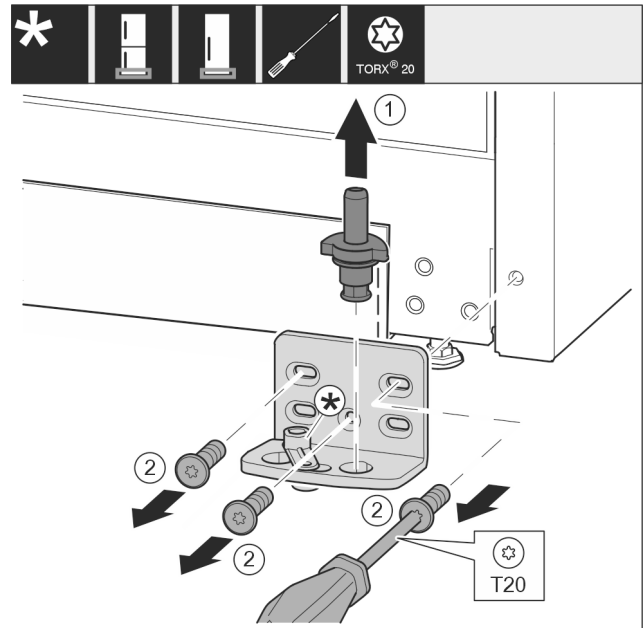

Fig. 13
- ▶ Pull the bearing bolt Fig. 13 (1) out upwards completely.
- ▶ Use screwdriver to unscrew the screws Fig. 13 (2) and remove the swap bearing block.